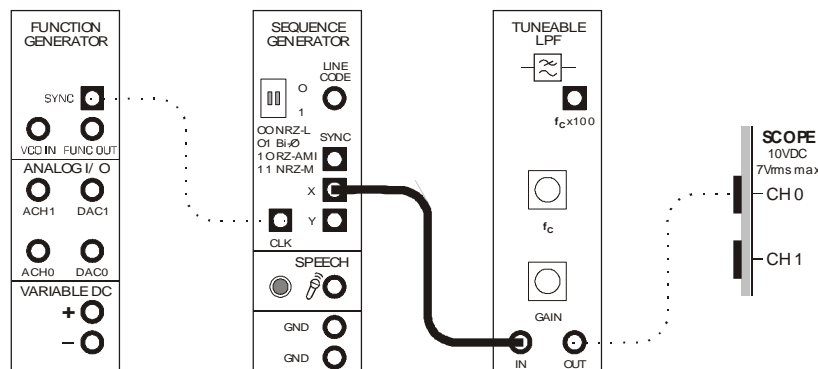

Figure 13
59. Modify the set-up as shown in Figure 13 below.